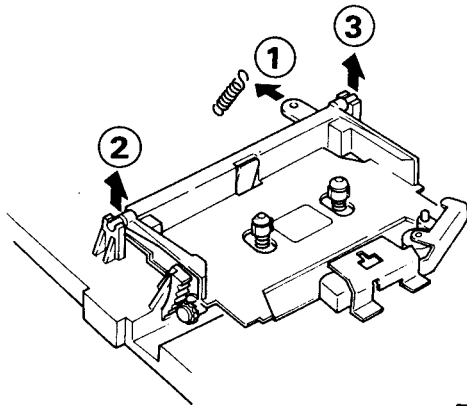

Fig. 8
- 1) Remove spring and 2 studs. (Refer to Fig. 8)